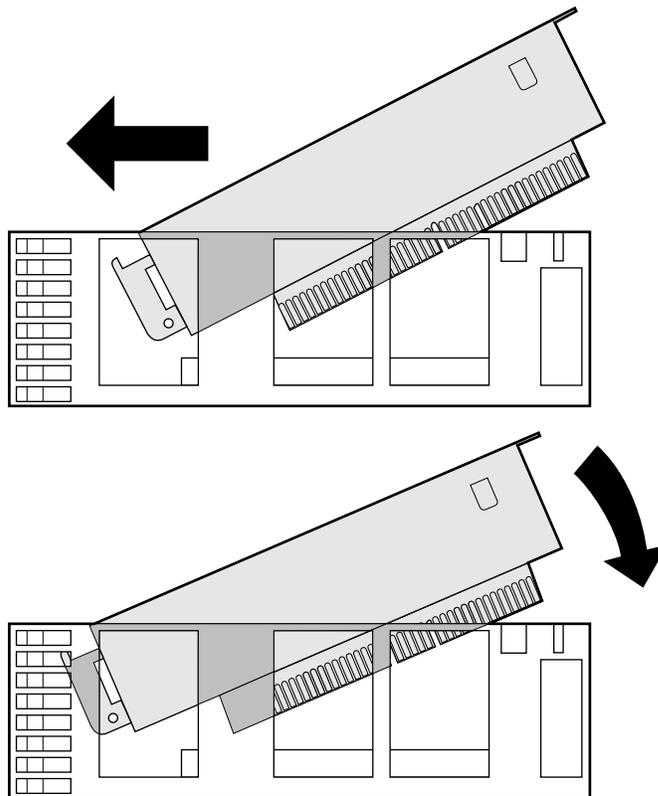

Figure 1-19 Replacing the PCI Tray in the System Module Viewed from the Side
2. Reinstall the PCI tray in the system module (Figure 1-19).